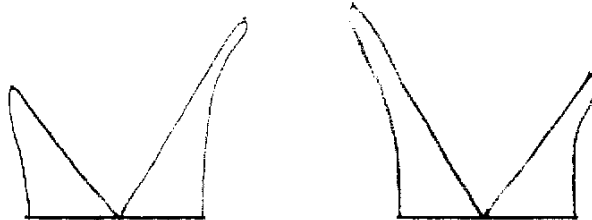

FIGURE 2. IMPROPER ZERO ADJUSTMENTS
- 2.2 Apply 6.3V AC, 60 Hz through a 10K ohm resistor to Tab 26 (reference to common) and observe the output voltage on Tab 11 with a scope with the horizontal axis driven by the summing junction voltage, Tab 26. Adjust the zero and deadband potentiometers (P781 and P782) to get the display indicated in Figure 1. Both potentiometers will have to be adjusted alternately to achieve the proper adjustment. Figures 2 and 3 give the symptoms of improper adjustments.